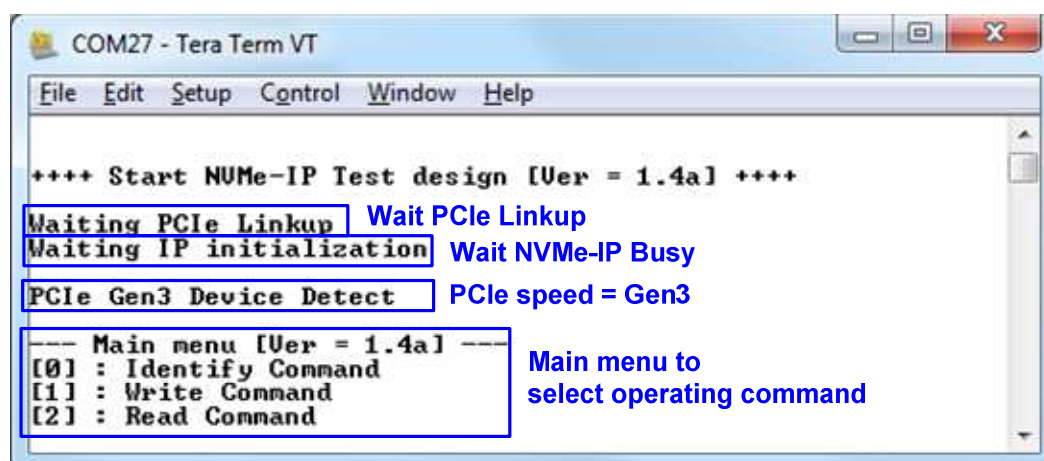

Figure 2-8 Main menu after program configuration file and PCIe initialization complete
- After programming completely, LED[0] and LED[1] are ON during PCIe initialization process. Then, LED[1] changes to OFF after PCIe completes initialization process and system is ready to receive command from user. After that, main menu is displayed, as shown in Figure 2-8.